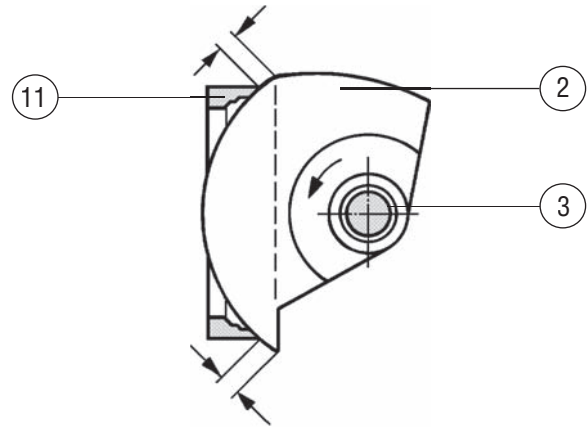

Fig. 5. Locating of the ball sector sphere when adjusting the actuator
In practice, this is prevented by the indicating pin which will come into contact with the bolts retaining the top cover if an attempt is made to turn the ball sector outside the range between fully open and fully closed. When adjusting the actuator, make sure that, in the closed position, the sphere of the ball sector (2) is located opposite the seat ring (11), i.e. that the sphere projects beyond the seat ring by equal amounts on each side of the seat as shown in Fig. 5.